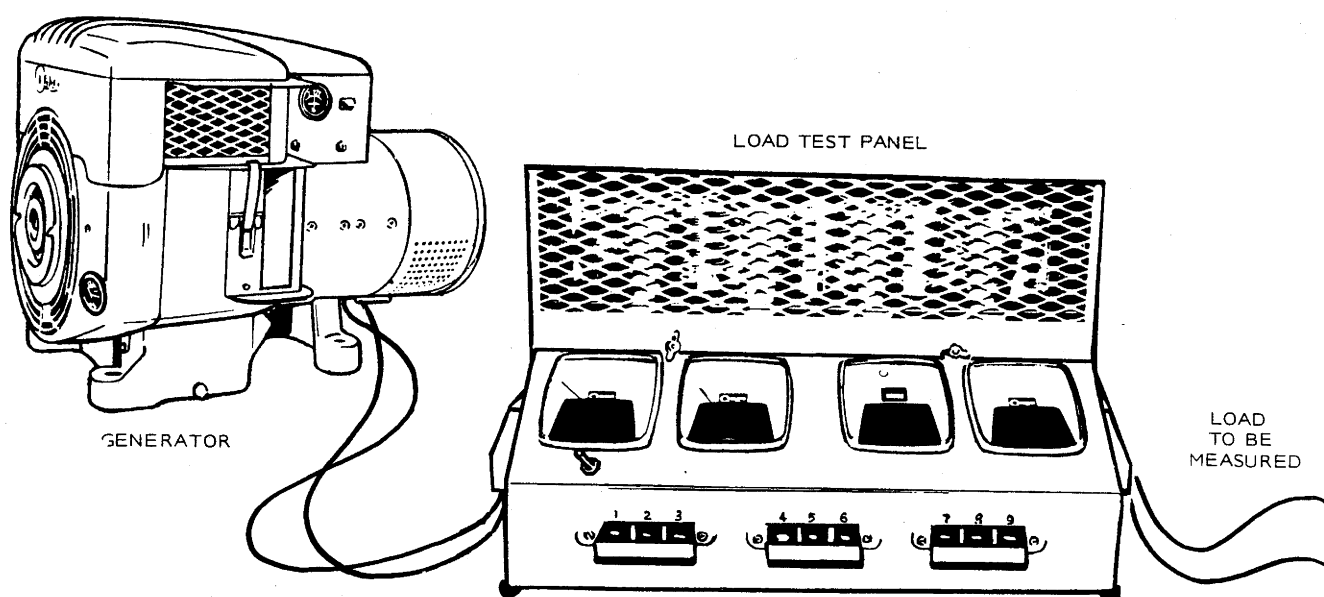

FIGURE 4. EXTERNAL LOAD MEASUREMENT
1. Connect panel. All switches OFF. (See Figure 4.)